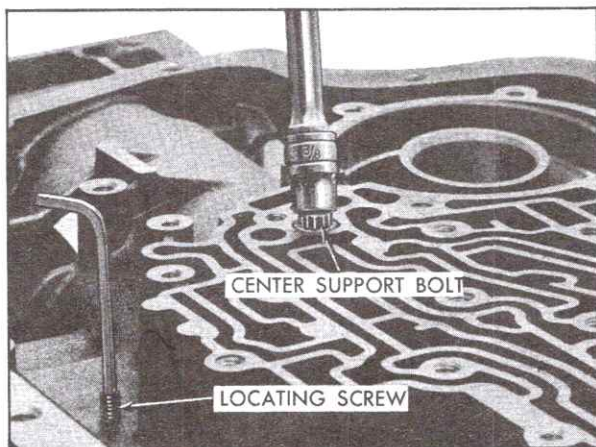

Fig. 7-94 Installing Center Support Bolt
10. Lubricate tapped hole in center support with transmission fluid and install center support-to-case support bolt through case into center support, Fig. 7-94. Tighten bolt to 23 foot-pounds.